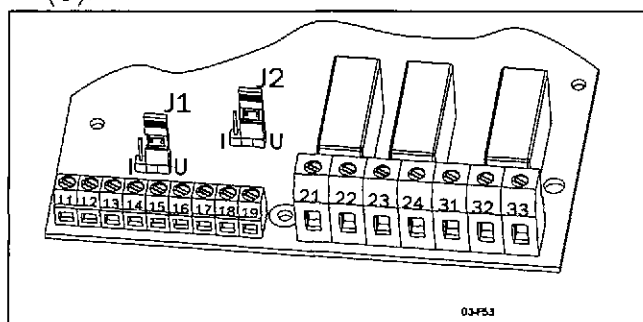

Fig. 38. Setting voltage or current for analogue input.
2. Set Jumper J1 on the PCB control card to voltage (U) or current control (I) signal position, see Fig. 38 and Fig. 24 on page 28. Factory setting is voltage (U).